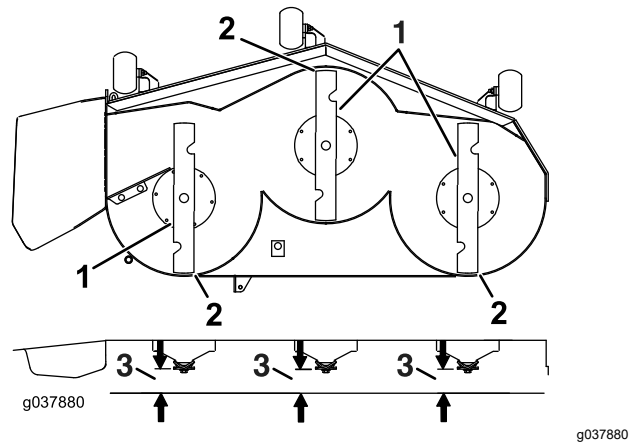

Figure 86
7. Check the front-to-rear blade level (Figure 86). Ensure the front blade tip is lower than the rear blade tip as shown in the block height and rake table. If adjustment is needed, continue with this procedure.